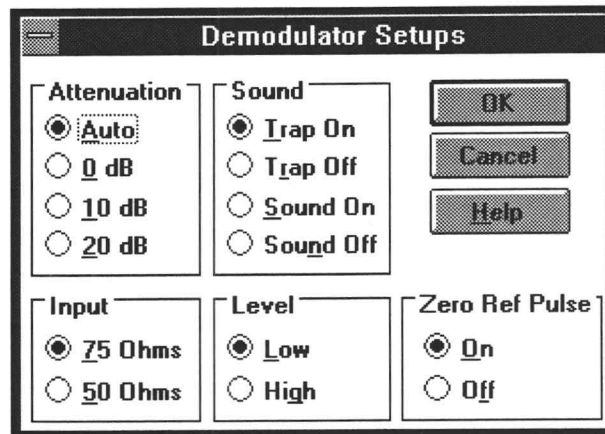

Figure 2-2. The Demodulator Setups dialog box.
3. If you select either the TV1350 or the EMFP, you are given an additional dialog box shown in Figure 2-2.